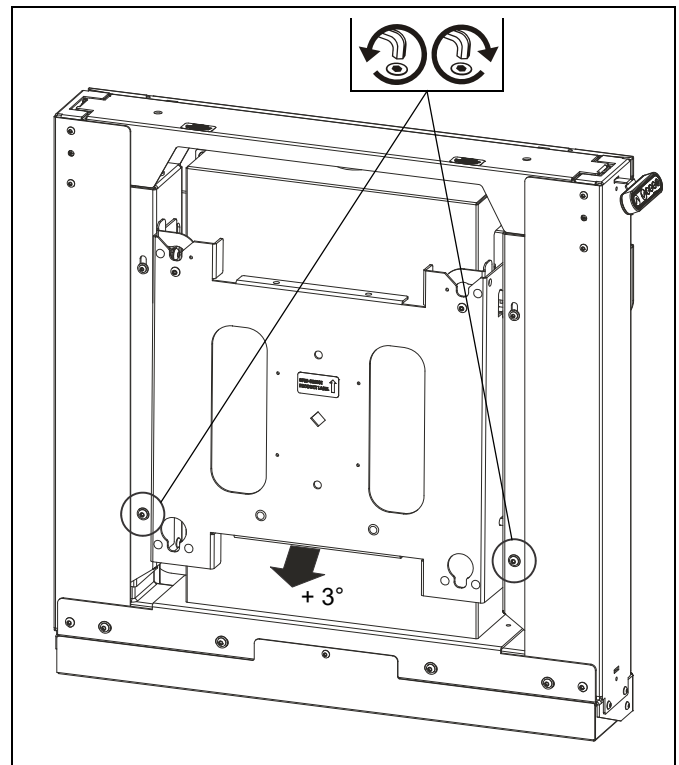

Figure 41
2. Adjust plumb adjustment screws as desired to adjust plumb + 3°. (See Figure 41)